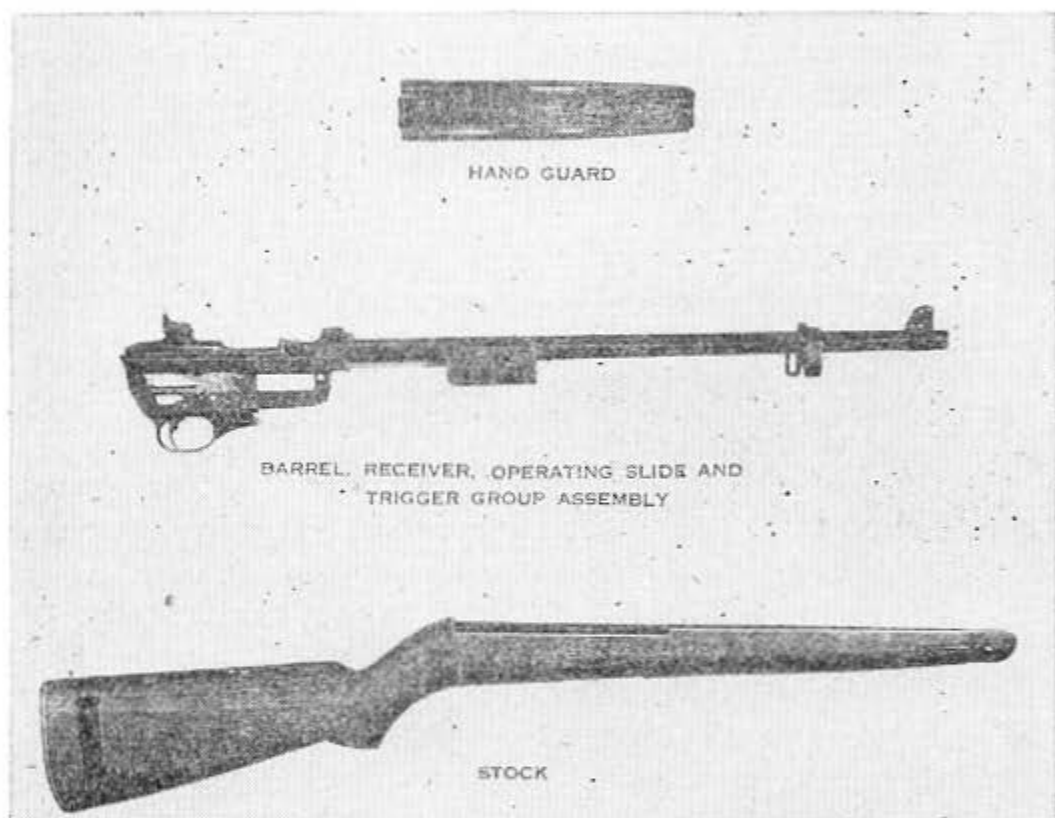

FIGURE 3.—Three main groups, U. S. carbine, caliber .30, M1.
■ 6. NOMENCLATURE AND REFERENCES.—*a. Nomenclature.*—The soldier should be familiar with the names of those parts of the carbine which are frequently referred to in drill and range practice (figs. 3 to 6, inclusive).